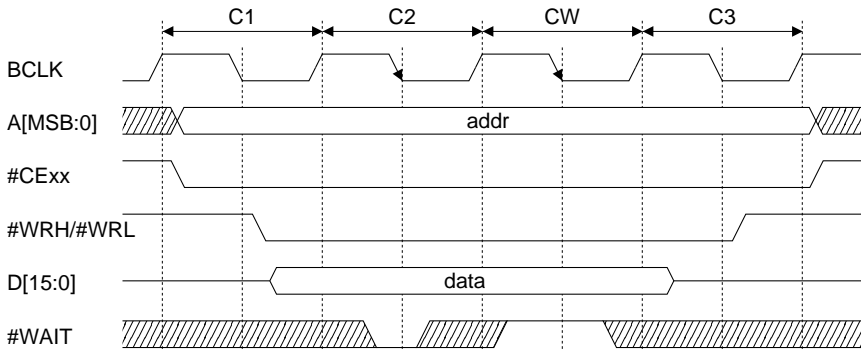

Figure II.4.29 Write Cycle with #WAIT Control
In the case of Figure II.4.29, #WAIT = low is sampled, so a wait cycle (CW) due to the #WAIT signal is inserted subsequent to the C2 cycle. In this example, 1-wait cycle only is inserted because #WAIT = high is sampled during the inserted wait (CW) cycle. If #WAIT = low is sampled during the CW cycle, one more wait cycle is added.